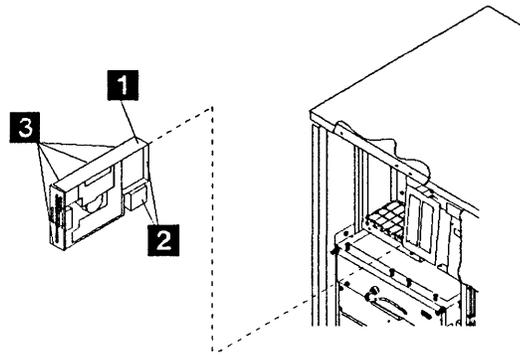

Figure 4-73. FDD Removal
Refer to Figure 4-73 and do the following:
2. Install the new FDD assembly with the 4 screws **3**. Refer to Figure 4-73 on page 4-52.
3. Reconnect the 2 cables at the back of the FDD **2**. Refer to Figure 4-73 on page 4-52.